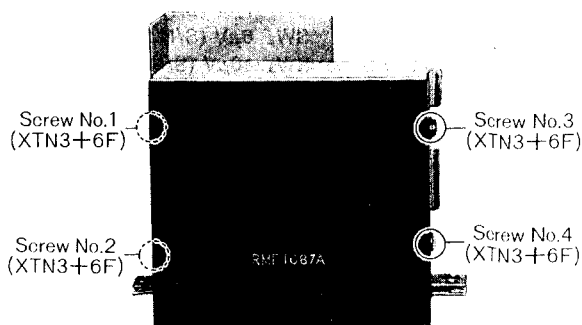

Fig. 4
2. Remove the four (4) screws (nos. 1~4) for the frequency counter cover, as shown in fig. 4.